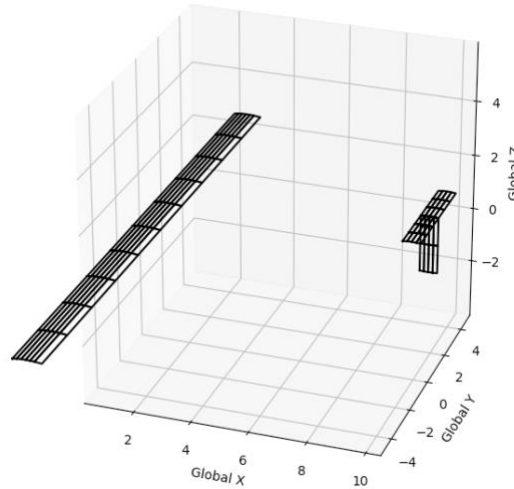

Figure 2: Wing-tail configuration of sample input file.
- The sample input file models the wing and t-tail configuration of Fig. 2.
As indicated in Fig. 2, the coordinates system is positive x in wind direction, positive y along right wing and positive z up.
Next, a sample input file with explanations. It is the file that was used to model the configuration in Fig. 2.